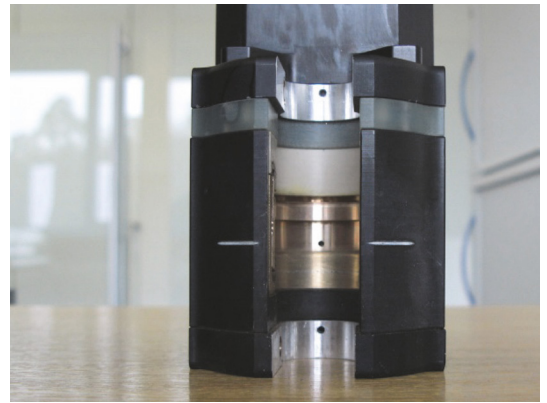
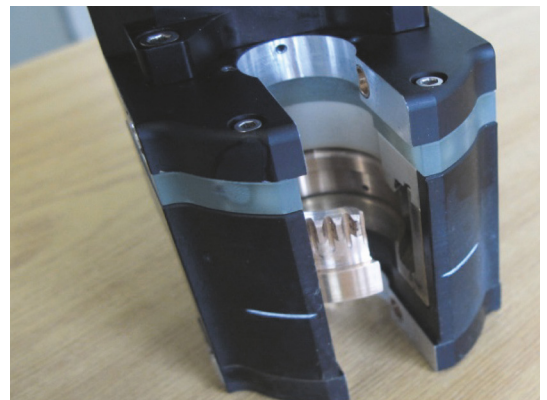

Fig. 7 Vertical alignment of the welding head
Fig. 8 Start position for cleaning the current/cooling contact surface
8. Align the weld head in vertical direction (Fig.7). Place the gear wheel (rotor) in position as shown (Fig. 8).